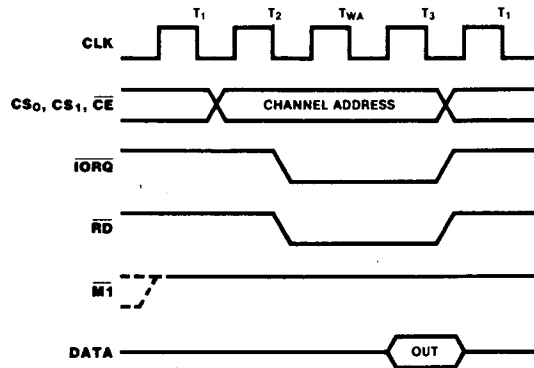

Figure 9. Read Cycle Timing
**Read Cycle Timing.** Figure 9 shows read cycle timing. This cycle reads the contents of a down-counter without disturbing the count. During clock cycle  $T_2$ , the Z80 CPU initiates a read cycle by driving the following inputs Low:  $\overline{RD}$ ,  $\overline{IORQ}$ , and  $\overline{CE}$ . A 2-bit binary code at inputs  $CS_1$  and  $CS_0$  selects the channel to be read.  $\overline{M1}$  must be High to distinguish this timing cycle from an interrupt acknowledge.